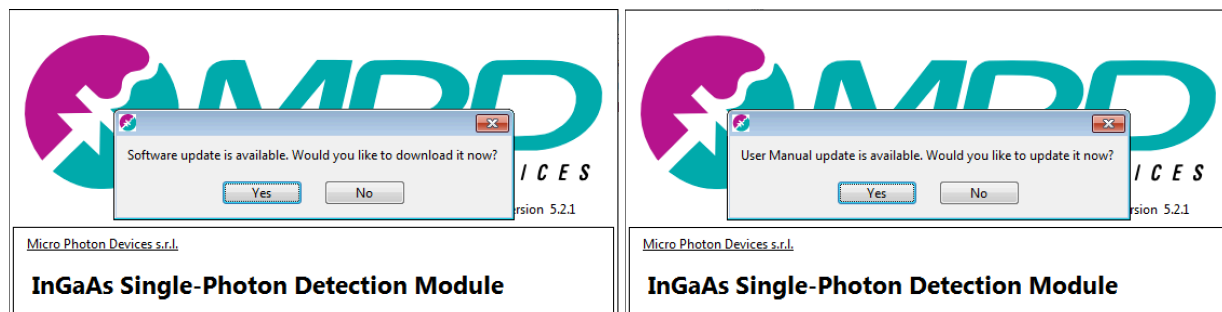
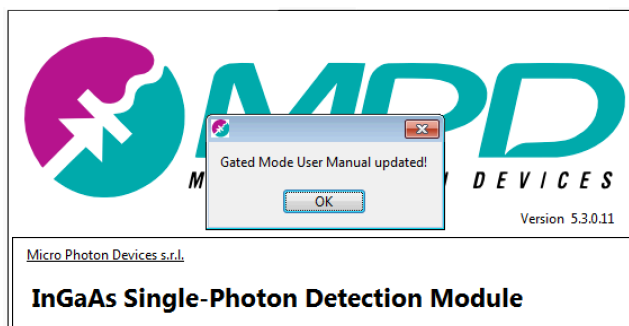

Figure 2.6. Software Update (left) and User Manual update (right) dialog boxes.
Figure 2.7. Dialogue box informing that the Gated-Mode User-Manual has been downloaded.
- In case a new user manual is present, the dialogue box shown in Figure 2.6 on the right will appear and if the user presses the ‘Yes’ button the new user manual is downloaded and copied inside the program. A dialogue box signaling the successful install of the new manual will also be shown as illustrated in Figure 2.7.
- In case a new software is available, the dialogue box shown in Figure 2.6 on the left will appear. If the ‘Yes’ button is pressed, the default web browser will be opened directly on the download page of the MPD website.